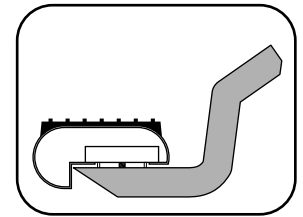

FIG 1a
1) Place clamp brackets on main bracket, turn 90 degrees to the main brackets. Place carriage bolt through top of clamp bracket through main bracket, placing flat washer and nylock on bottom side. **Fig 1a**